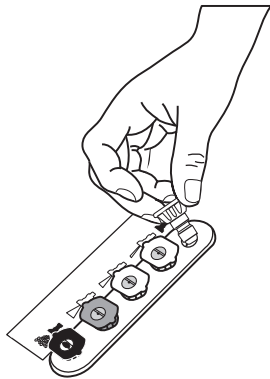

Figure 3-1
1. Remove the colored quick-connect nozzles from the plastic bag and insert them into correct grommet on the nozzle holder (if equipped). Nozzles are color coded to match colored nozzles on label. See Figure 3-1.